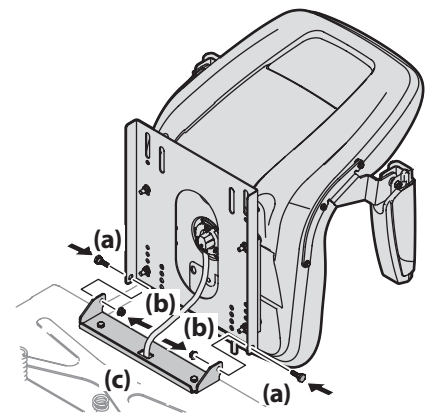

Figure 2-3
- Rotate the seat into position and secure the seat into place with the previously removed shoulder screws and flange lock nuts. Be careful not to crimp or damage the wire harness while installing the seat. See Figure 2-3.